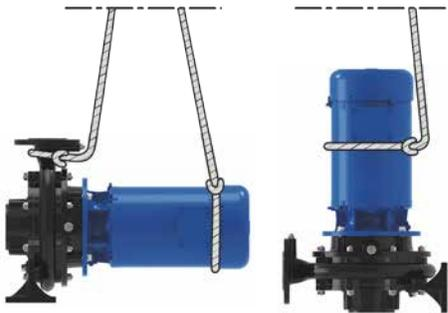

Fig. 20 Lifting points on the pump
1. Attach the ropes, lashes or multi-point slings according to (Fig. 20).